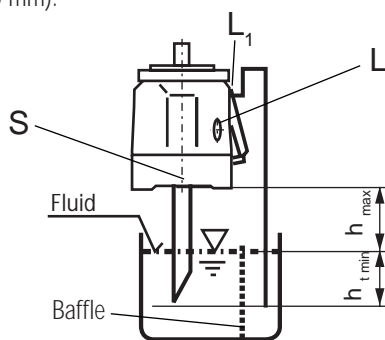

Fig. 2
b) If the minimum fluid level is below the pump mounting face pipe port "L₁", and possibly "S" according to Fig. 2.
Before installing the pump, fill the pump with housing in the horizontal position. For mounting above reservoir see Fig. 2.